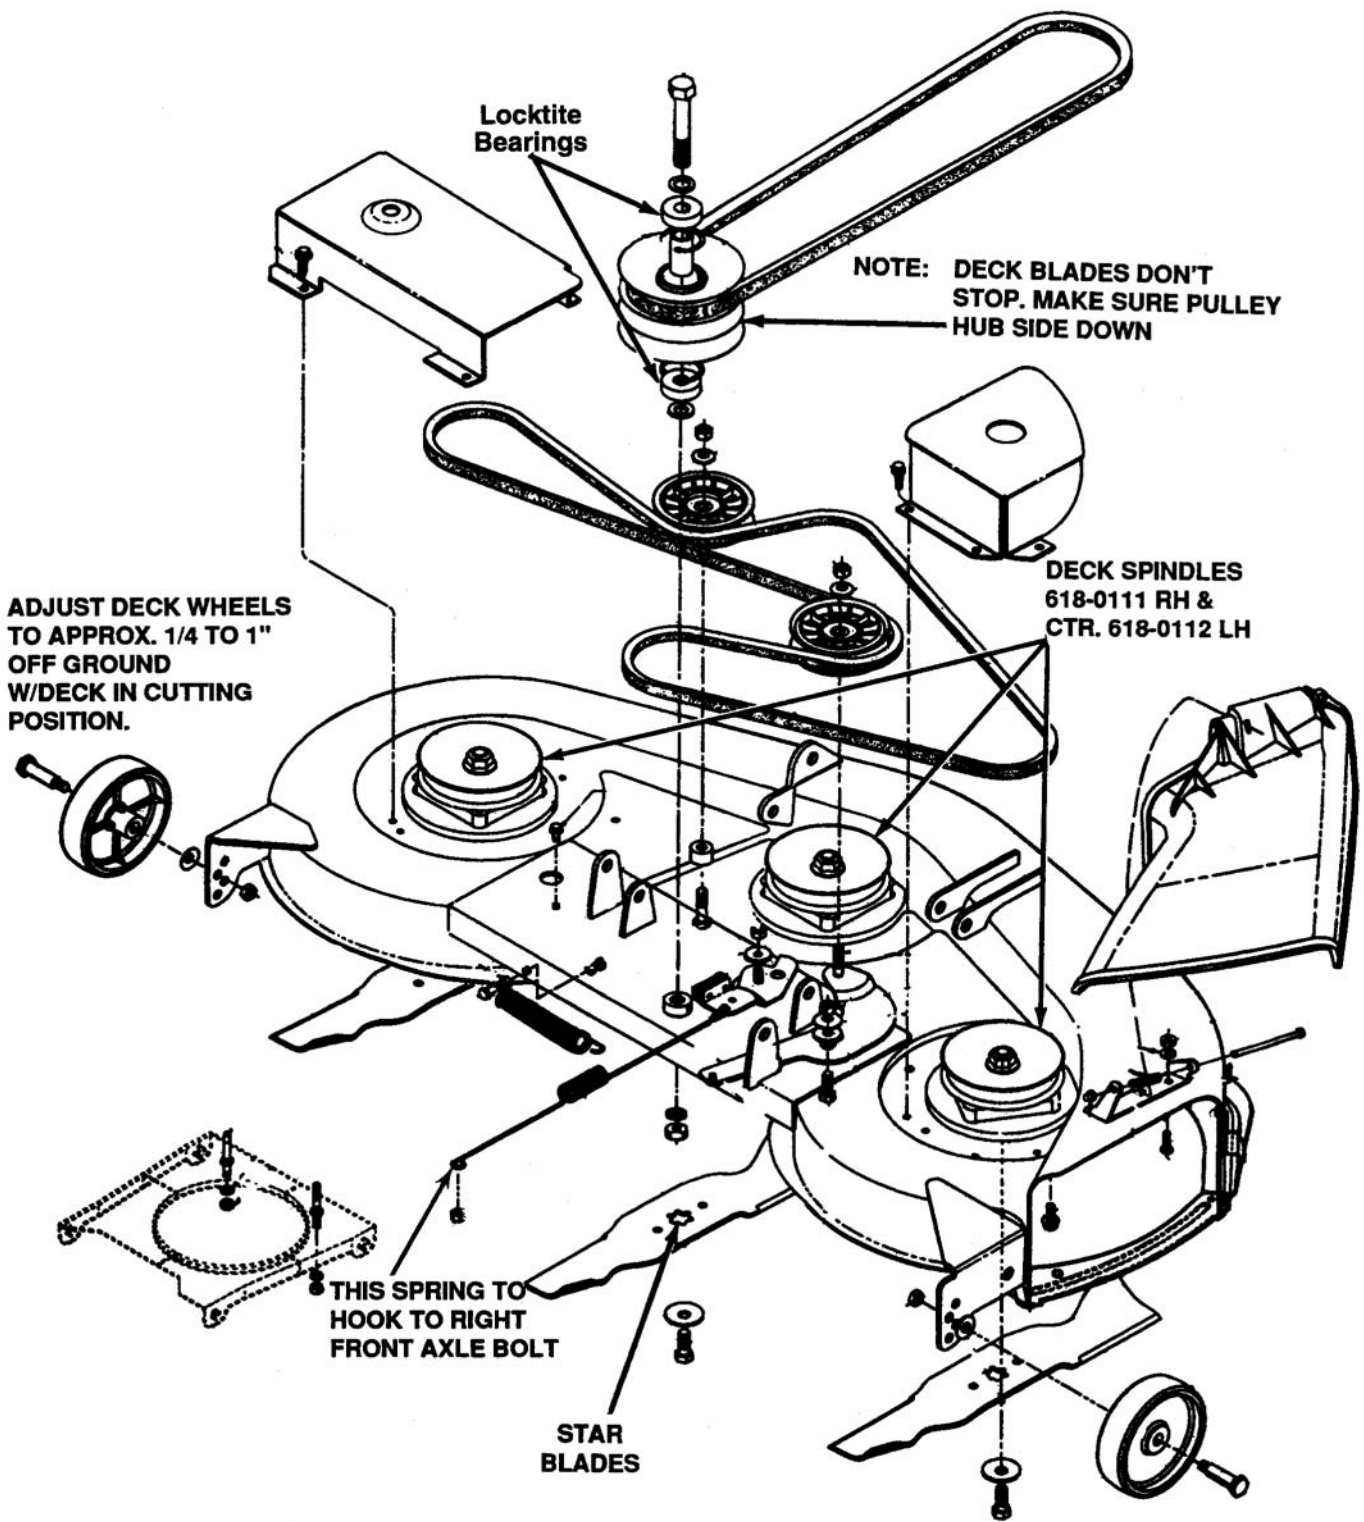

Figure 12-48. Model Series 600 "H" 46-Inch Deck
**12-11. MODEL SERIES 600 “H” 46-INCH SIDE DISCHARGE DECK FOR 600 AND 700 SERIES FRONT ENGINE LAWN TRACTOR (See Figure 12-48).**